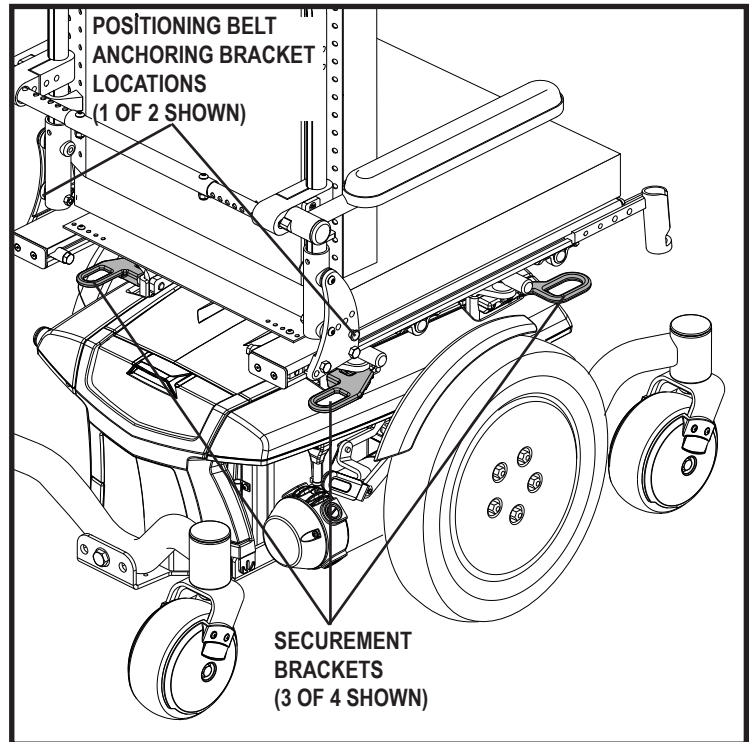

Figure 12. Transit System Securement Brackets (Synergy Seat Shown)
If your power chair is equipped with a transit securement system, it is equipped with manufacturer-installed front and rear securement brackets and positioning belt anchoring brackets. See figure 12 or 13. Refer to the supplement provided with your power chair for information on how to use the transit securement system.
- Attach the four tie-down straps only to designated, labeled transit securement points indicated by anchor symbols on the power chair. See figures 12, 13, and 14. Tighten the straps to sufficiently remove all slack.